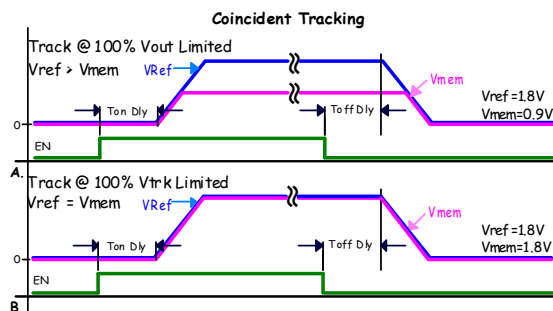

FIGURE 17. COINCIDENT TRACKING
The ZL9117M offers two modes of tracking: coincident and ratiometric. Figures 17 and 18 illustrate the output voltage waveform for the two tracking modes.
1. Track at 100% V_{OUT} limited. Member rail tracks the reference rail and stops when the member reaches its target voltage, Figure 17\(A\).
2. Track at 100% V_{TRK} limited. Member rail tracks the reference at the instantaneous voltage value applied to the VTRK pin, Figure 17\(B\).